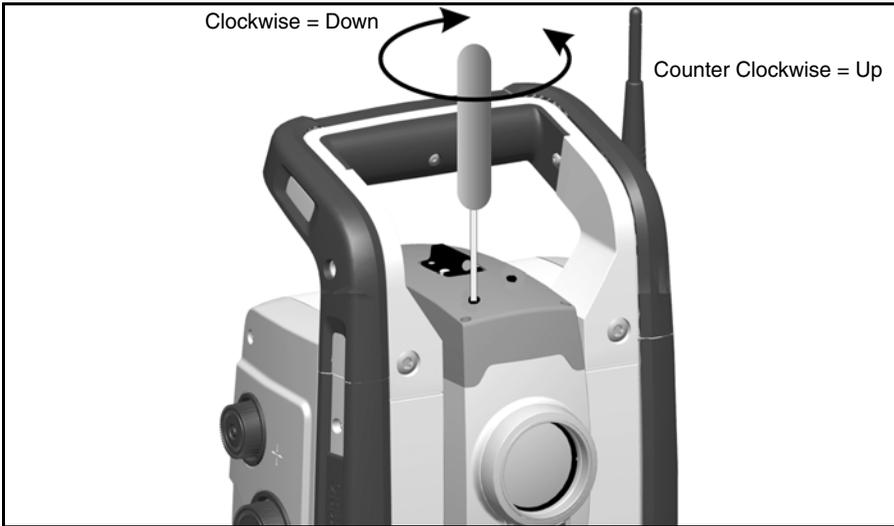

Figure 4.29 Vertical position adjustment
2. To correct the vertical position of the laser spot, insert the allen key into the vertical adjustment port and turn it as shown in figure 4.29.